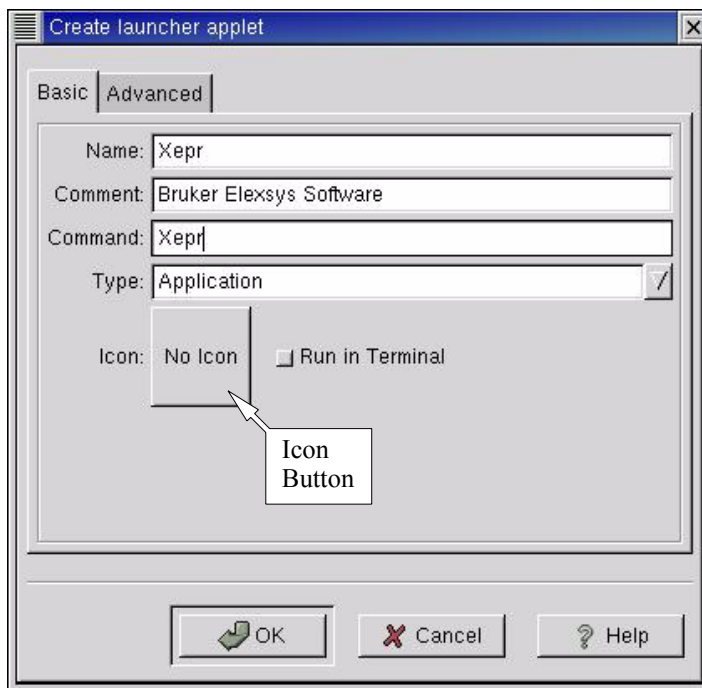

Figure 16-3 Setting up the Xepr launcher applet.
2. **Set up the Xepr launcher.** In the Create launcher applet dialog box enter Xepr for the program name. In the Command line enter Xepr. Click the Icon button. (See Figure 16-3.)